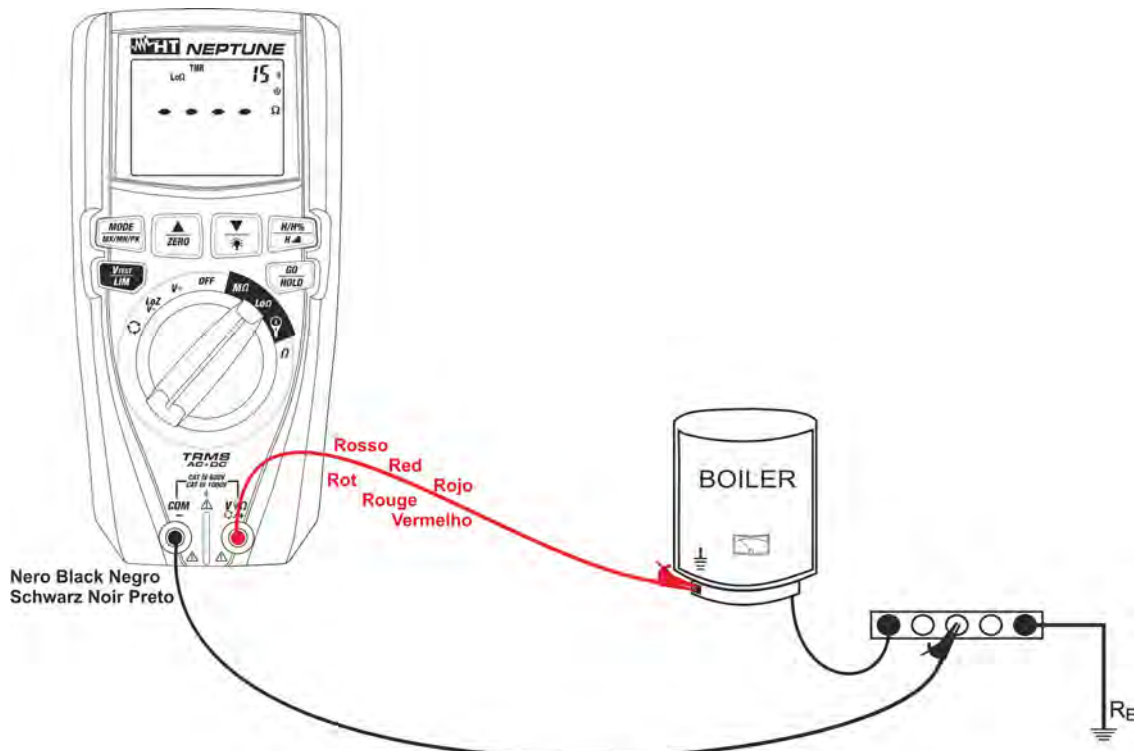

Fig. 29: Use of the instrument for continuity test in TMR mode
7. Insert the red lead into input terminal $V\Omega\ominus/+$ and the black lead into input terminal **COM**/–, and connect the instrument to the system to be tested (see Fig. 29).